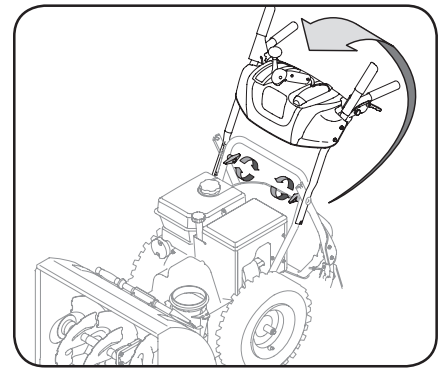

Figure 2-4
5. Pivot handle upward and align the tab in the lower area of the upper handle with the hole in the lower handle. Secure handle by tightening wing nuts located on both left and right sides of handle. See Figure 2-4. Remove and discard any rubber bands, if present. They are for packaging purposes only.